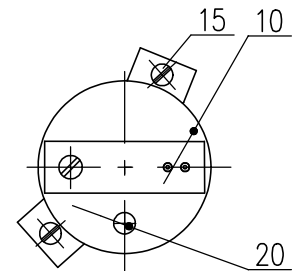

Fig. 8
4.5 Adjustment of the Capacitive Transmitter CPT1/A (Fig.8)